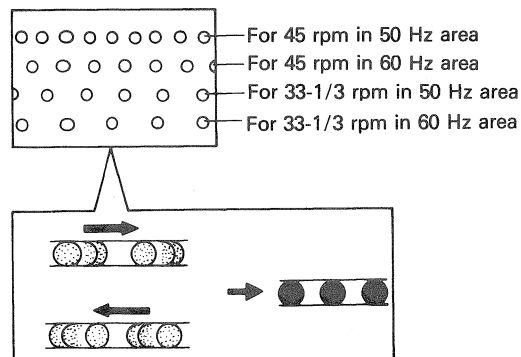

Fig. 21 Stroboscope
- (1) Set the speed control knob on the panel at the center.
- (2) Set the power switch to ON to start the motor rotating. Rotate the 33-1/3 and 45 rpm semi-fixed variable resistors and adjust so that the respective stroboscope pattern appears to stand still as shown in Fig. 21.